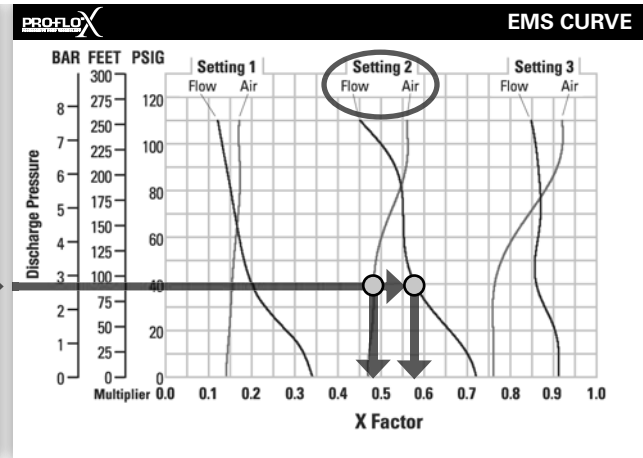

Figure 2
Step 2: Determining flow and air X Factors. Locate your discharge pressure (40 psig) on the vertical axis of the EMS curve (Figure 2). Follow along the 2.8 bar (40 psig) horizontal line until intersecting both flow and air curves for your desired EMS setting (in this case, setting 2). Mark the points where the EMS curves intersect the horizontal discharge pressure line. After locating your EMS points on the EMS